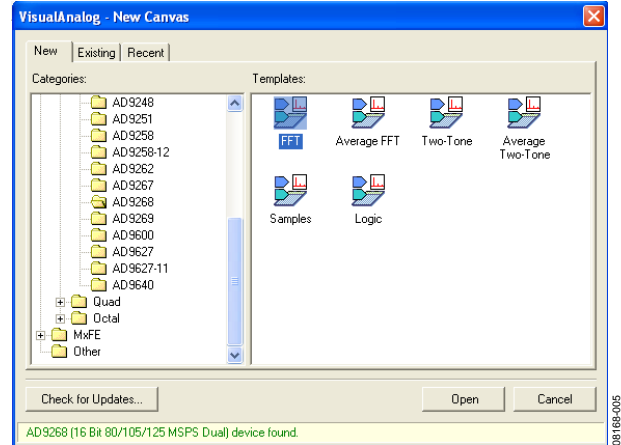

Figure 6. VisualAnalog, New Canvas Window
1. Open VisualAnalog on the connected PC. The appropriate part type should be listed in the status bar of the **VisualAnalog – New Canvas** window. Select the template that corresponds to the type of testing to be performed (see Figure 6 where the AD9268 is shown as an example).